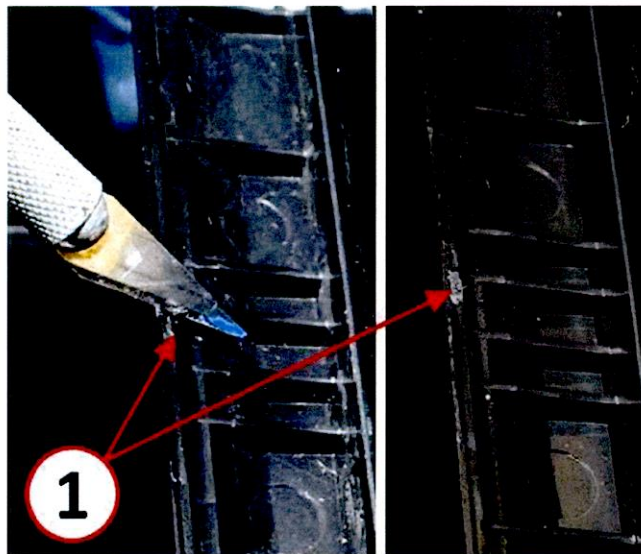

Fig. 2 Injection Molding Bump Removal
3. Using an appropriate tool, remove the injection molding flash bump on the backside of the integrated center stack bezel to insure a flush surface (Fig. 2).